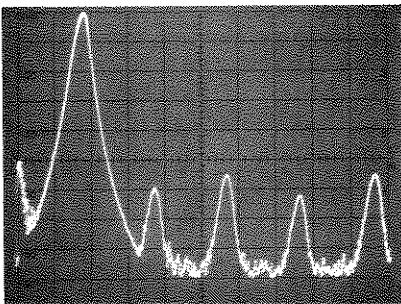

Figure 5-6. Sine Distortion Adjustment: 999 Hz
9.5 Adjust A10R227/206 for minimum harmonic (Figure 5-6). Verify that these levels are 42 dB below fundamental or lower.